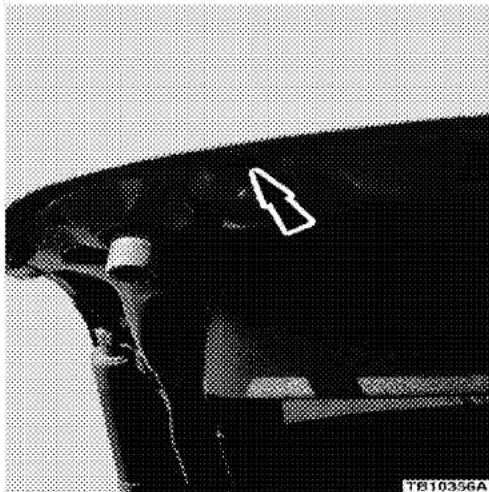

Figure 2 – Article 14-16-NA
3. Open the liftgate and install a new drain valve in each of the two (2) drain holes on the left and right side of the liftgate. Apply a slight amount of sealant on the drain valves used in the liftgate drain holes to keep them from coming loose. (Figure 2)